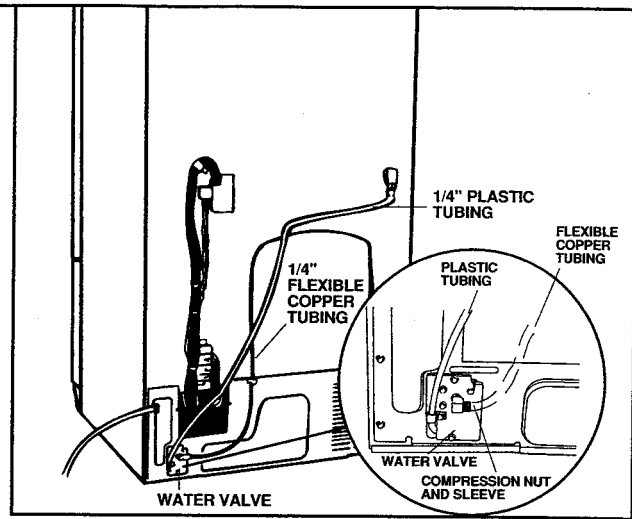

Figure 23
- f. Remove yellow plastic cap on water valve before connecting the 1/4-inch flexible copper tubing (provided by installer) to the water valve with a 1/4-inch tube compression nut and sleeve. See Figure 23.